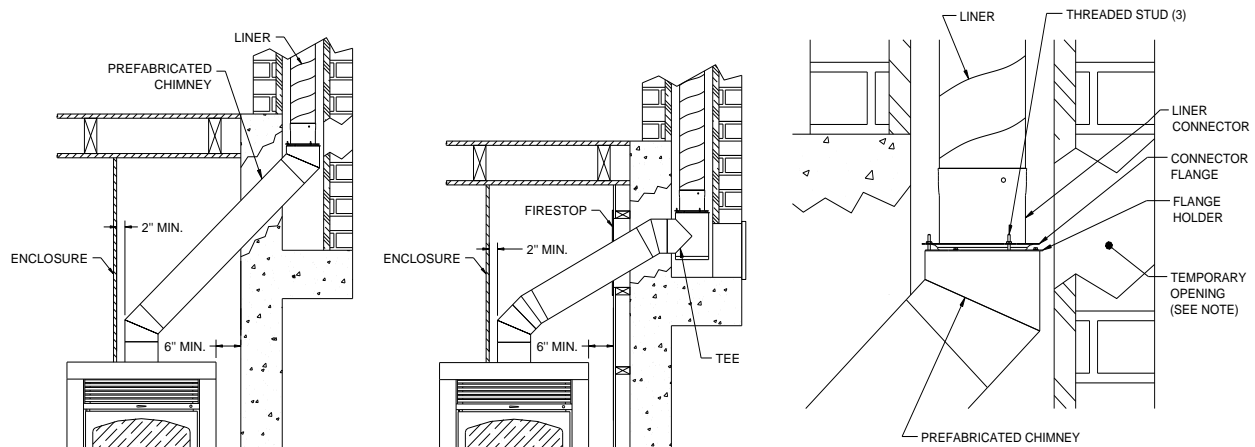

Figure 25 – Connection to a Masonry Chimney
- Elbows can be used to deviate and enter the masonry chimney when possible as shown in figure 25.